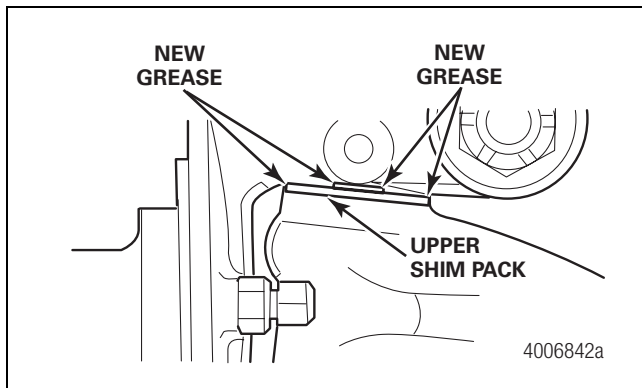

Figure 6.31
5. Apply lubricant into the top grease fitting until new grease purges from the upper shim pack. Figure 6.31.